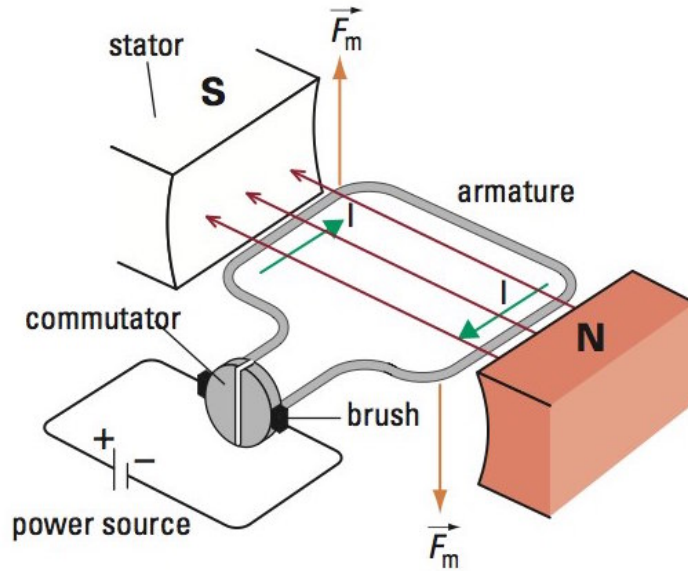

Figure 23: A simple DC motor.
A Direct Current (DC) motor is a two-wire (power and ground) continuous rotation motor which converts DC electrical energy to a mechanical energy. The principle of a DC motor is that whenever a current-carrying conductor is placed in a magnetic field, it experiences a mechanical force (as shown in Figure 23). When you supply power, a DC motor will start spinning until that power is removed. Most DC motors run at a high RPM (revolutions per minute).